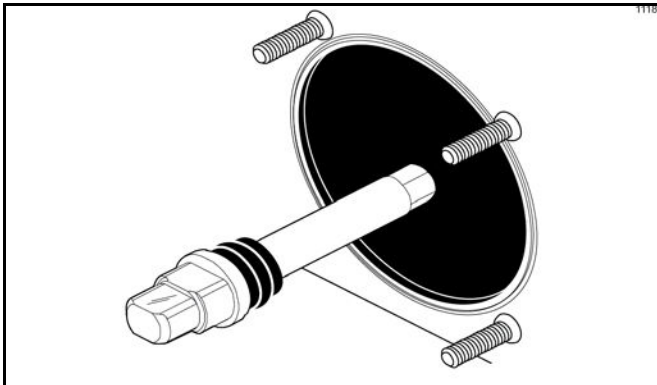

Figure 6-20
2. Insert the beater driveshaft through the rear shell bearing in the freezing cylinder and engage the hex end firmly into the drive coupling. (See Figure 6-20.)